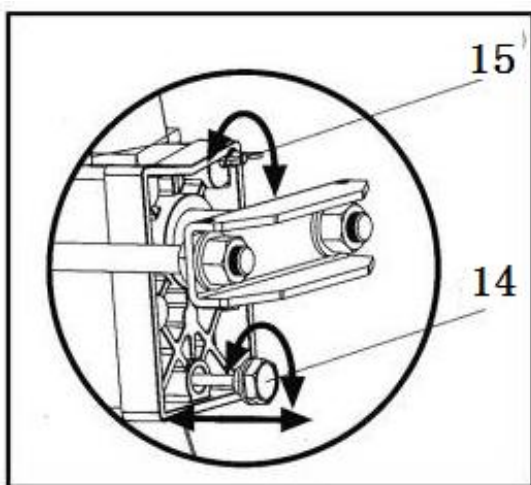

Fig.10
Before operating the log splitter, the Bleed Screw (15) Fig. 10, should be loosened by some rotations until air can go in and out of the oil tank smoothly.